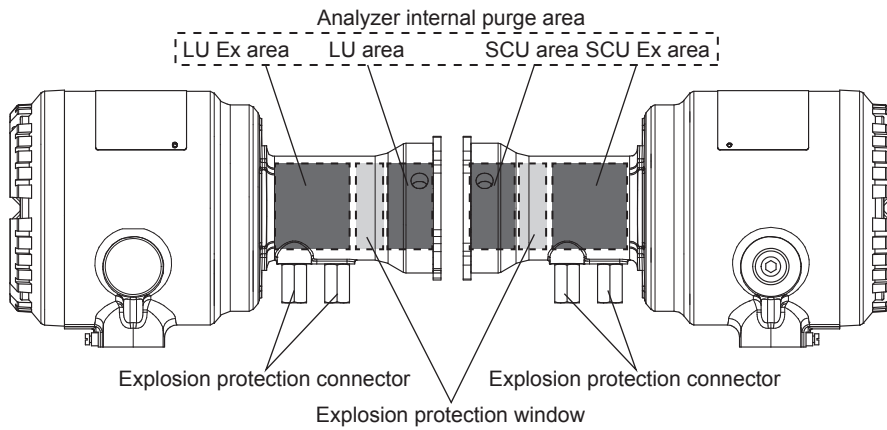

Figure 3.28 Areas to be purged in Explosion proof/Flame proof type
**(1) Explosionproof/Flameproof type without validation function**
If TDLS8000 Explosionproof/Flameproof type is installed in situ and the validation function is not used, connect piping as shown in Figure 3.28. For SCU Ex area and LU Ex area, feed nitrogen gas through purge port A at 50 to 70 mL/min and for SCU and LU area, feed nitrogen gas through purge port B in Figure 3.28. The piping for these two areas in a unit should be separated because required flow rate is different. For flow rate of SCU and LU are, refer to 3.4 (2). For process window purge, feed nitrogen gas through the purge ports of the alignment flange.